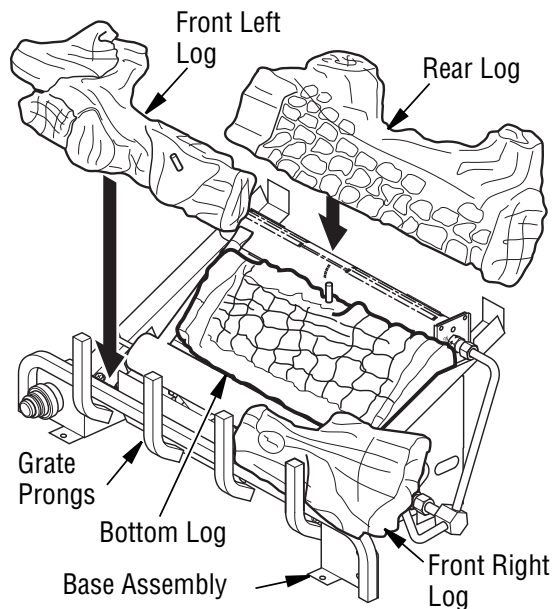

Figure 19 - Installing Log Set
1. Place bottom log in center of the base assembly as shown in **Figure 19**. The log must sit flat on the black sheet metal and behind the left metal tab as shown in **Figure 20-A**.
2. Rest rear log in back corner sections of base assembly as shown in **Figure 19**. Make sure log is completely vertical and not leaning in toward burner where flame will touch the log.
3. Position front right log against right side of grate prongs (see **Figure 19**).
4. Position front left log against left side of grate prongs (see **Figure 19**).